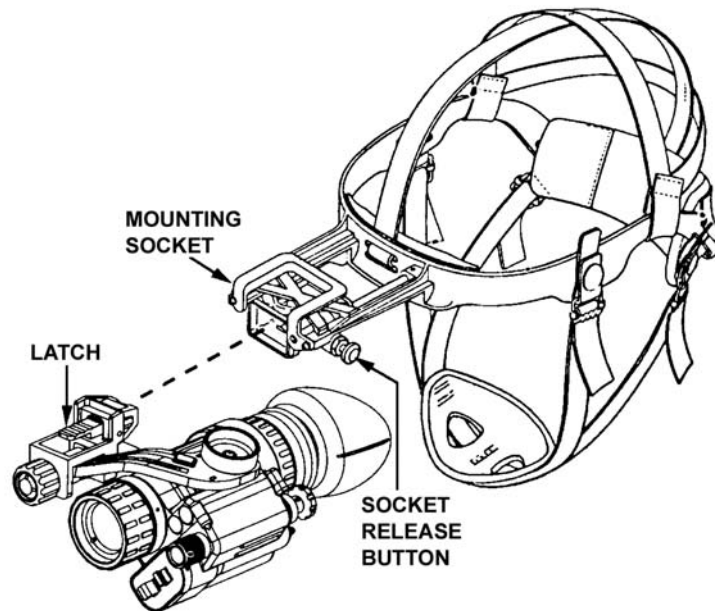

Figure 5. Head/helmet mount adapter operation.
3. Perform operational procedures for headmounted operation (Figure 5).
- f. Adjust the eye relief distance by pressing the socket release button (Figure 5) and sliding monocular fore and aft to obtain a full field of view of the image. Readjust the diopter ring for best image.